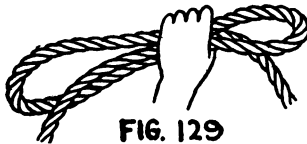

FIG. 129
**Sheepshank.** For shortening ropes of any size, either temporarily or permanently, there is no form of fastening that is more satisfactory than the sheepshank. This hitch is made by grasping the rope in the left hand, then bringing it up with the right hand so as to form a loop large enough to reduce the rope to the desired length (fig. 129). The ropes are then held in the left hand as in fig. 129, a half hitch is made with the
right hand (fig. 130) and passed over the end (fig. 131). Reversing the rope, grasp the other end in the left hand as shown in fig. 129 and